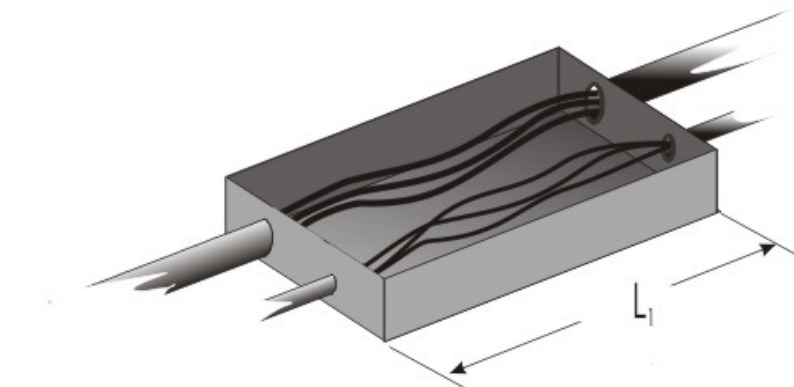

Figure 1
- What's the minimum dimension of L1 in Figure 1 if the larger conduit is 63 mm? straight wire multiple by 8: $63 \times 8 = 504$ mm